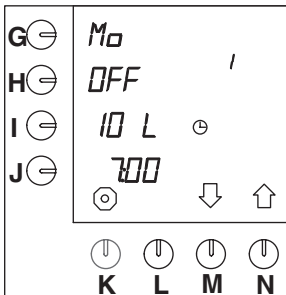

Fig. 44 Pre-programmed settings (inactive)
There are fourteen pre-programmed "time settings" for all days of the week. As soon as these are activated through the procedure below, they will only be active and visible in the user mode. All settings can be set as desired. The fourteen settings are default (fig. 44) :
- Press selection key (N.)↑ until fig.44 appears on the display.